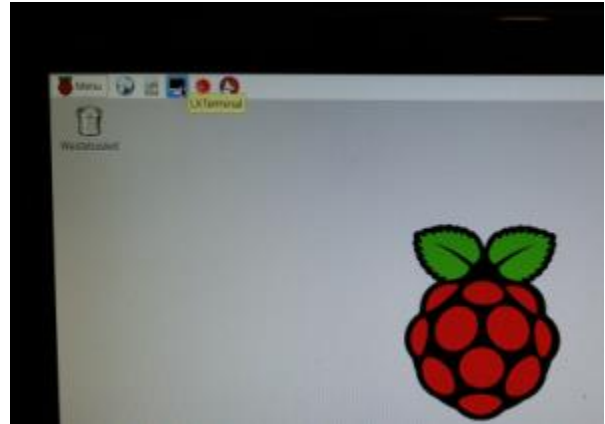
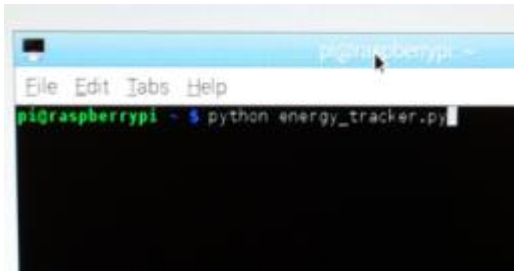

Figure 11 Starting LX Terminal window.
Figure 12 LTX Terminal to start Energy Tracker Application.
Step 9: Use the mouse to click on the LX Terminal icon at the top as shown in figure 11. It will open a terminal window as shown in figure 12.
Step 10: In the LX terminal window at the prompt `pi@raspberrypi ~$` type in `'python energy_tracker.py'` and then press the enter key as shown in figure 12. You can also use the up or down arrow key on the key board to scroll through the last few commands that you typed. When it shows `'python energy_tracker.py'`, press the enter key. This will start the energy tracker application.